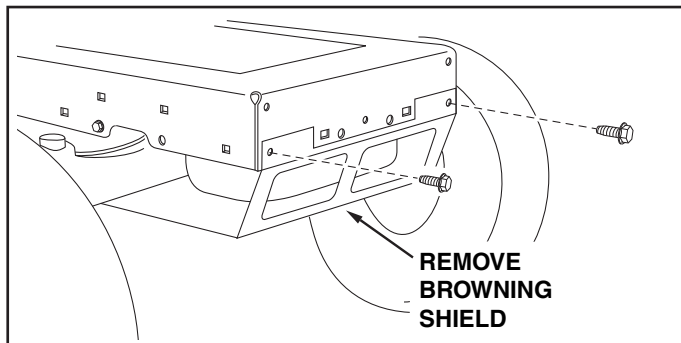
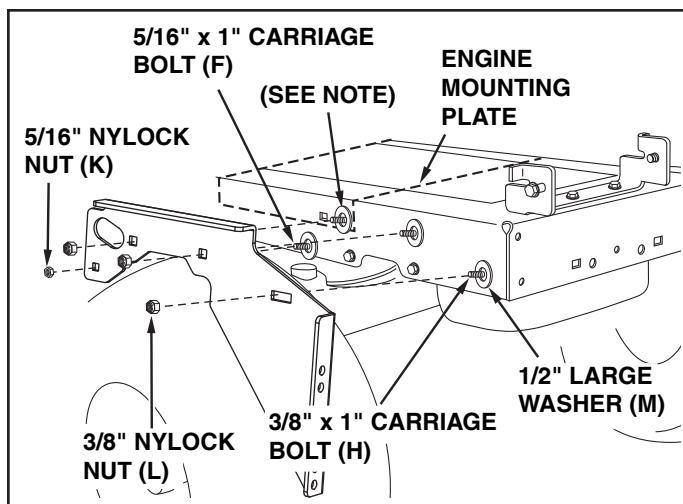

FIGURE 2
FIGURE 3
STEP 1: (SEE FIGURE 2)
STEP 2: (SEE FIGURE 3)
- Fasten the R.H. Side Plate (bend facing out) to the front three holes in the tractor frame using three 3/8" x 1" carriage bolts (H), three large 1/2" washers (M) (see note) and three 3/8" nylock nuts (L). For the rear hole, use a 5/16" x 1" carriage bolt (F), a large 1/2" washer (M) and a 5/16" nylock nut (K). Place the washers between the tractor frame and the side plate. Tighten all bolts. Repeat for L.H. side plate.
- Reinstall the browning shield removed in figure 2.